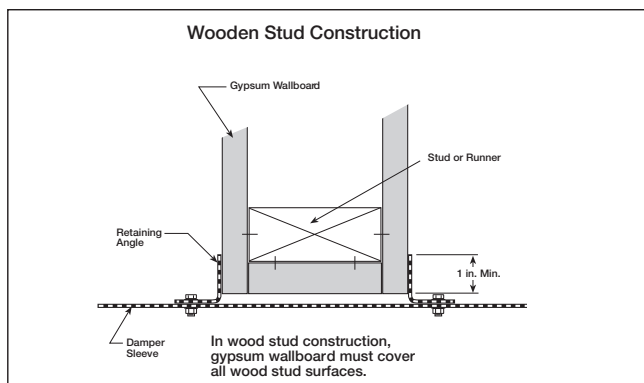

Figure 3 (2 sided angle installation shown)
- Prepare opening between studs and sleeve assembly as shown below (see Figure 3 & 4).